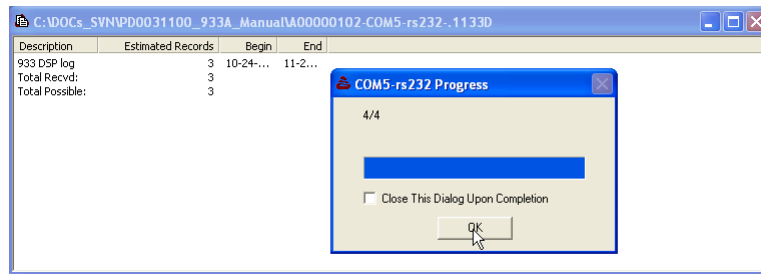

Figure 5.11: Downloading User Records with Progress
4. When the User Log window appears, a progress window will indicate the progress of the record download graphically and by number of records – see Figure 5.11.